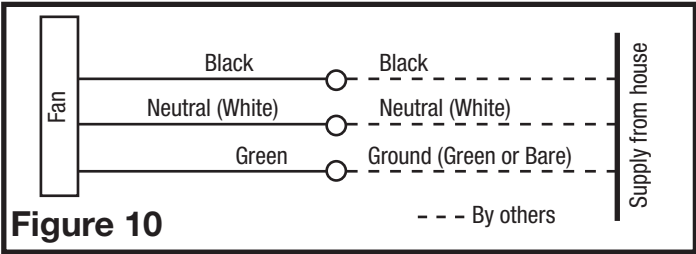

Figure 10
2. From where you have access to inside the fan's junction box, connect the White wire from the house to the White wire from the fan's receptacle. Connect the Black wire from the wall switch to the Black wire from the fan's receptacle. Connect the ground wire from the house to the Green wire from the fan's receptacle (Figure 10). Use approved methods for all connections.